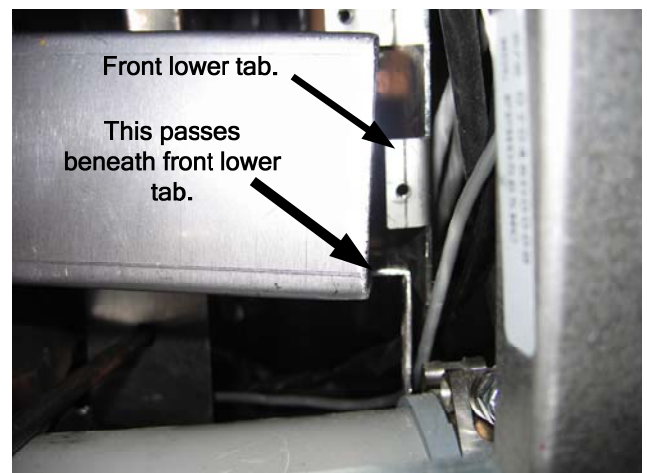

Figure 7: Pass the tab on the brace beneath the front lower tab on the fryer.
- B. Maneuver the other end over the oil return handle into the cabinet. Ensure the tab on the brace passes under the front lower tab on the fryer (Figure 7).